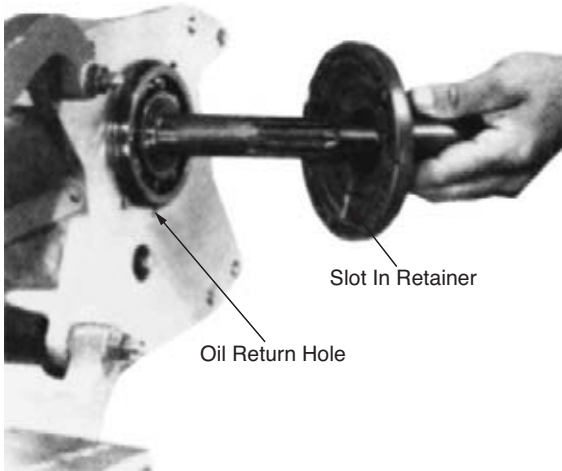

FIGURE 8-29 When the front bearing retainer is removed, it is a good practice to note the location of the oil return groove. (Courtesy of Ford Motor Company)
4. Remove the input bearing retainer, and note the top and bottom of this unit (Figure 8-29).